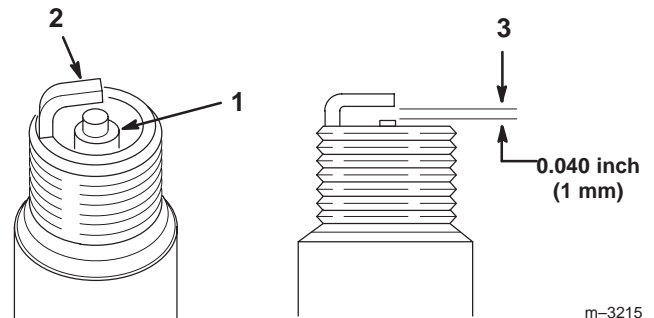

Figure 51
1. Look at the center of the spark plugs (Fig. 51).
2. Check the gap between the center and side electrodes (Fig. 51) and bend the side electrode, if the gap is not correct.